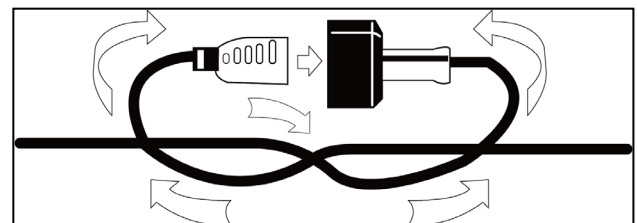

Fig. 3
3. Make a knot with the power cord and the extension cord as shown in Fig. 3.